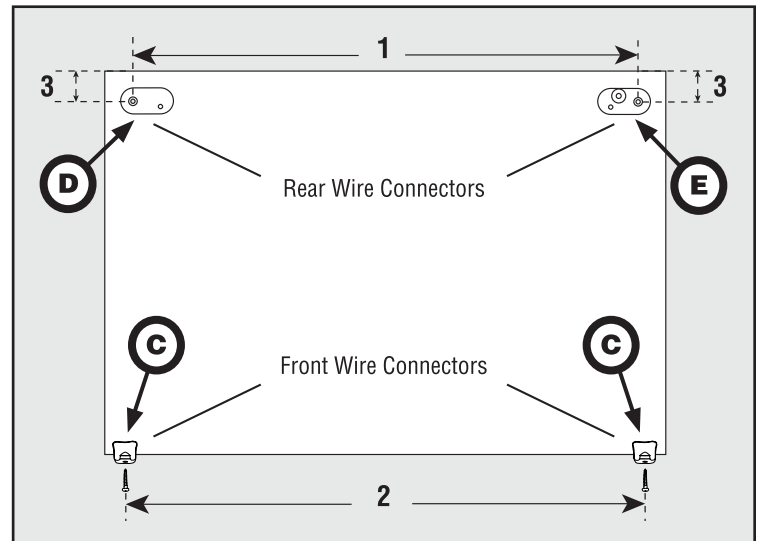

Figure 1
- 3** Position front and rear wire connectors (**C, D, E**) on top of drawing board as shown in **Figure 1**. Use chart below to determine proper spacing. Center the straightedge (**B**) on the board.